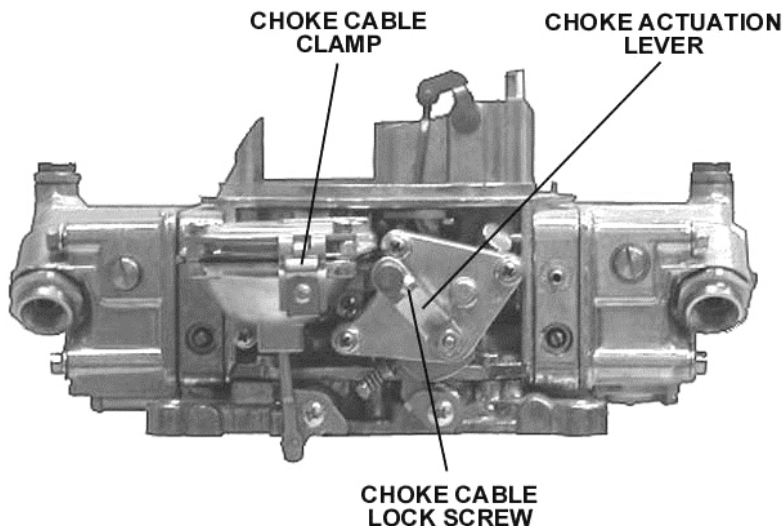

Figure 7 Manual choke parts (0-3310S shown)
- A. Connect the choke control cable (Holley® P/N 45-228) to the choke actuation lever, and lock in place with the choke cable lock screw (Figure 7).
1. Attach the vacuum gauge to a manifold vacuum port on the throttle body (Figure 7).